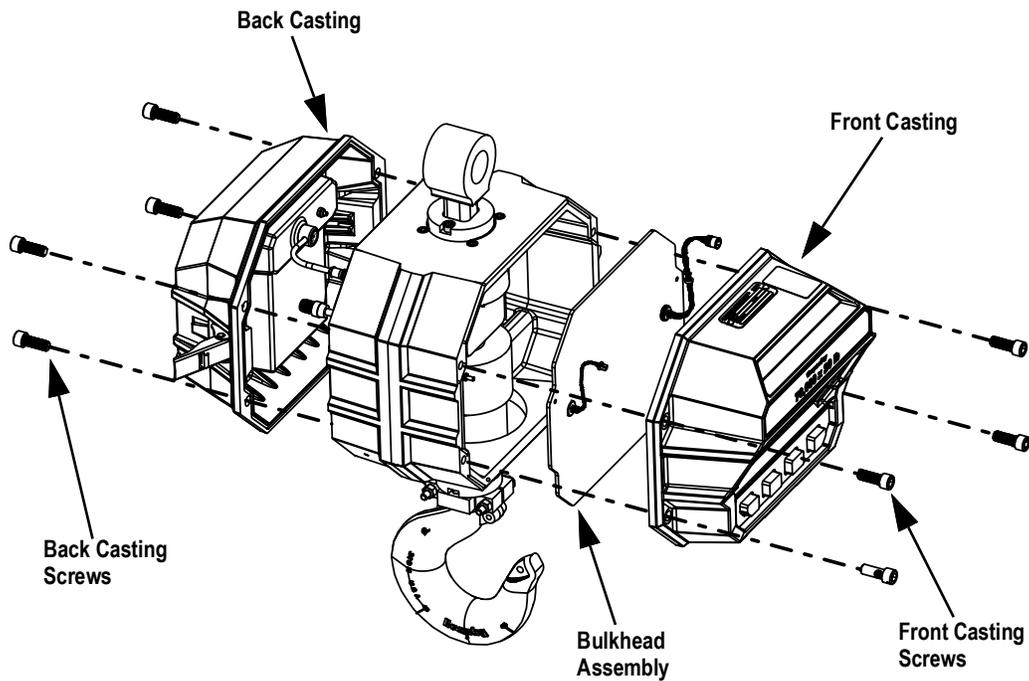

Figure 2. Casting Removal
3. Place the back casting on the mid-casting assembly and secure with the supplied 3/8 inch drive head screws, torqued to 20-25 ft-lbs (see Figure 2 on page 2).
6. Place the front casting on the mid-casting assembly and secure with the supplied 3/8 inch drive head screws, torqued to 20-25 ft-lbs (see Figure 2 on page 2).